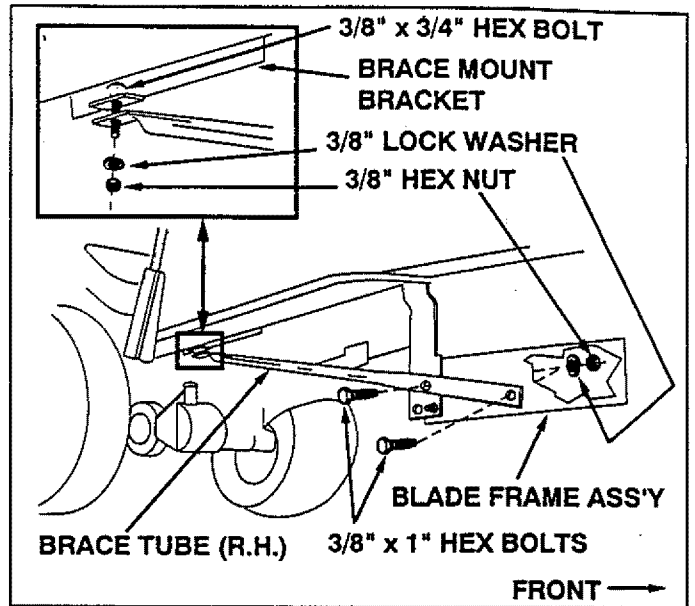

FIGURE 12 (Right Hand Side View)
- Attach the brace tubes (L.H. and R.H.) to the outside of the frame assembly using the front bottom hole in the frame assembly and the aligned hole through the frame assembly and the frame bracket as shown in figure 12. Use two 3/8" x 1" hex bolts, lock washers and lock nuts on each side. Attach the other end of the brace tubes to the brace mount brackets using the 3/8" x 3/4" hex bolts inserted in previous step. Secure from underneath with a 3/8" lock washer, and lock nut on both brace tubes. See figure 12.